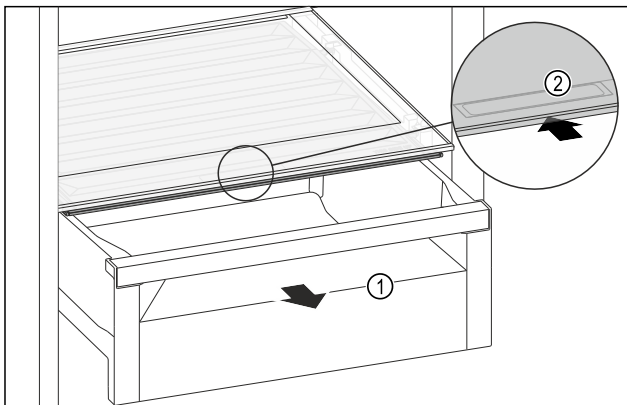

Fig. 141
- Pull out the drawer Fig. 141 (1).
- Grasp the recessed grip Fig. 141 (2) on the compartment lid and push the compartment lid backwards at the same time.